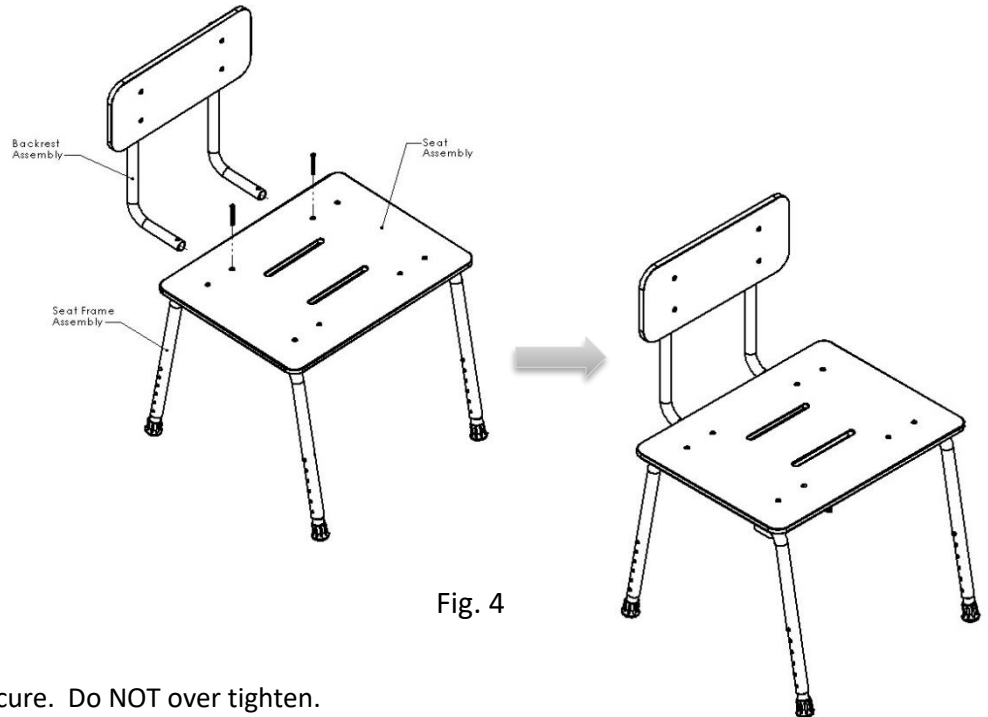

Fig. 4
Use (2) 10-24 x 2" L Phillips Flat Head Screws (provided) and place them into the holes designated for the backrest. (See Fig. 4)